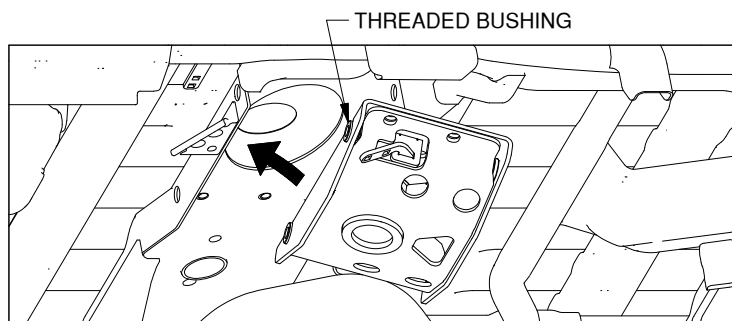
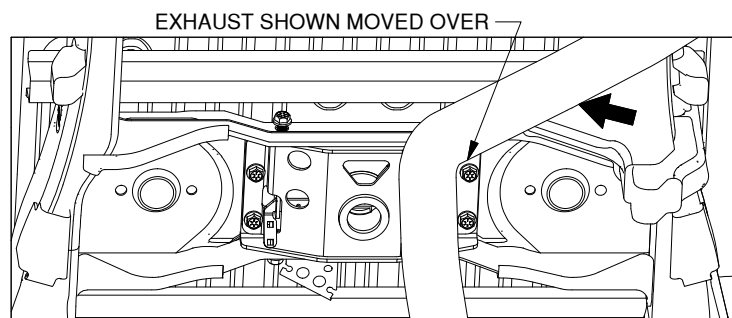

Figure B3: Looking up at bed from in front of driver side tire.
Figure B4: Looking up at frame cross member under truck.
3. **Position the center section.** With the latch pin mechanism on the driver side, raise the center section into place, as shown in Figure B3. In order to clear structures under the truck bed, the center will have to be lifted into place on an angle over the exhaust, then positioned directly under the frame cross member so that the raised portion of the center can be pushed straight up through the hole in the bed. Start a 5/8" flange head bolt through each hole in the forward and rear flanges into the threaded bushing in the center to hold the center in place. Next, while keeping the fastener blocks from rotating, install a 5/8" flange head bolt into each of the four holes under the fastener blocks until they are snug but not fully tight, see Figure B4.